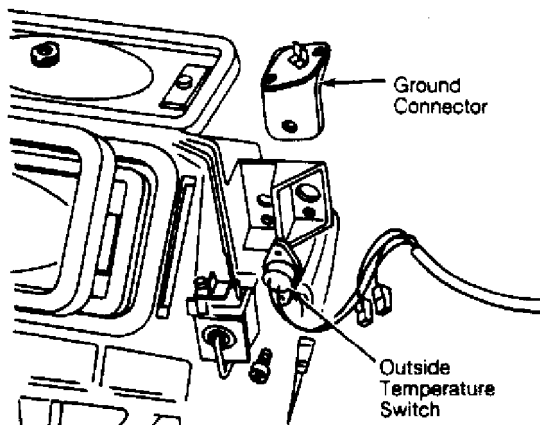

Fig. 5: Location of Fresh Air Fan Thermostwitch
2) Bridge contacts of fresh air blower thermostwitch connectors. Using ohmmeter, check for continuity between control head terminal 3 and ground. If there is continuity, go to step 3). If there is no continuity, repair open circuit between control head and thermostwitch ground. See Fig. 5.